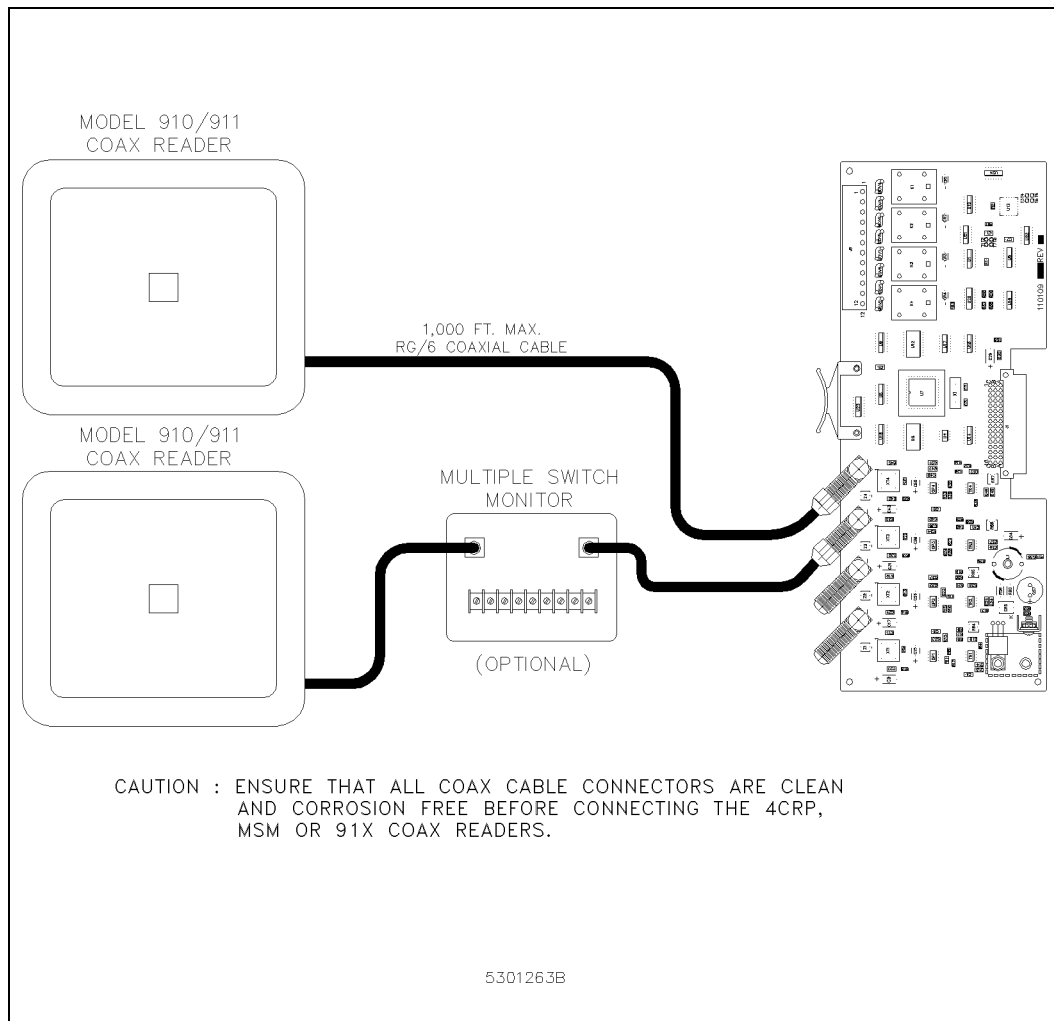

Figure 3: Wiring 4CRP to Coax-Interface Proximity Readers
1. Check the wiring between the 4CRP and the reader. See Figure 3: Wiring 4CRP to Coax-Interface Proximity Readers on page 16 and the reader installation manual.